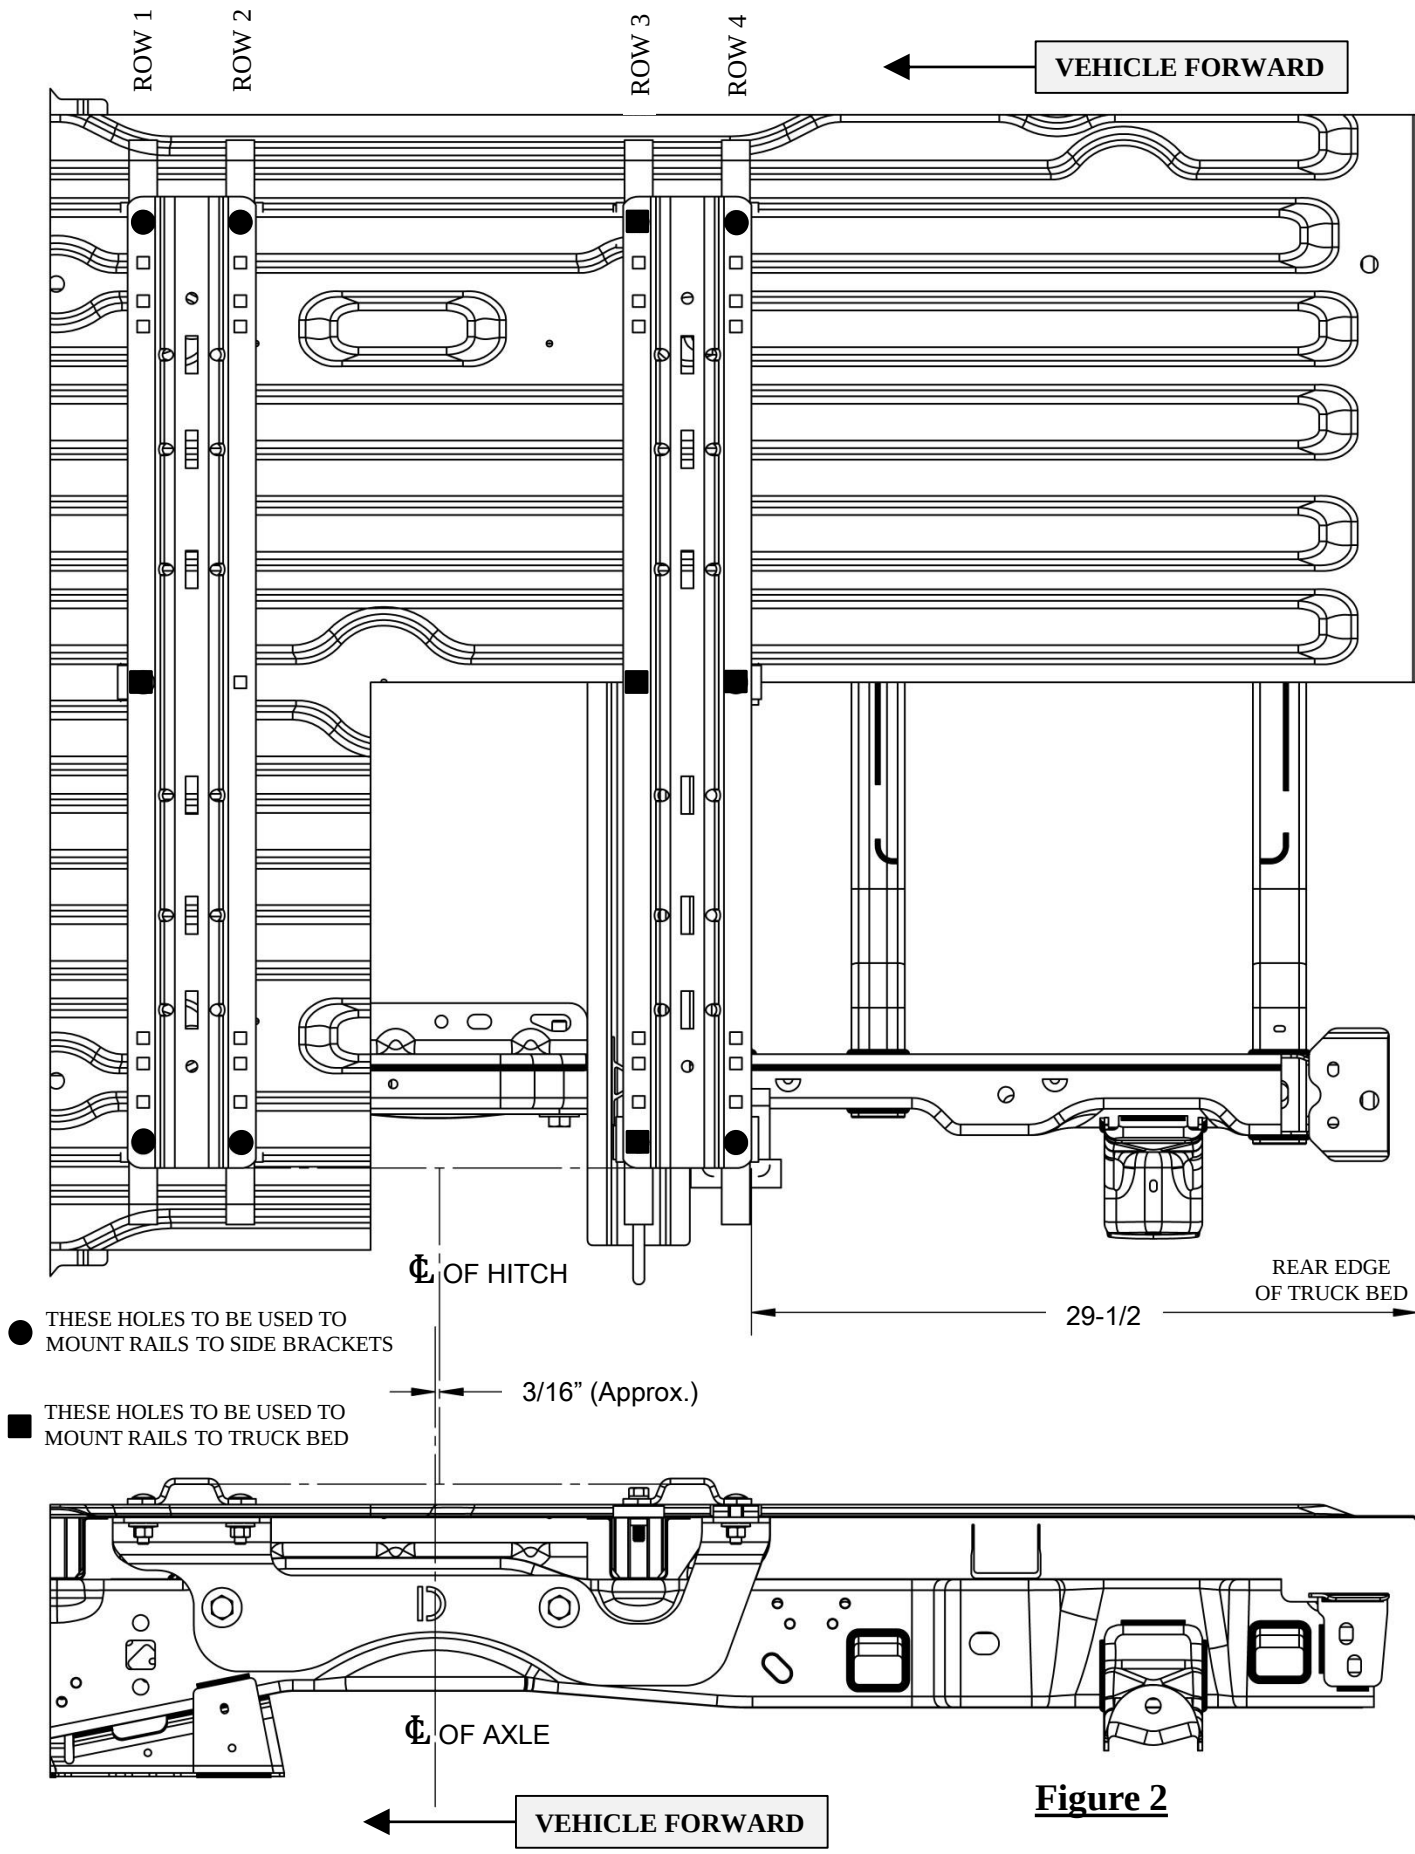

Figure 2
3. Place the rear mounting rail in the box of the truck, using your tape measure, center the rail between the weld seams on the length of the truck box floor or the wheel well and the proper distance from the rear edge of the truck. (See Figure 2)
4. Mark and center-punch the holes, as per the illustrations. Move the rail out of the way and drill each position with a 1/8" drill bit. (See Figure 2)
12. Install the rear rail attachment bolts as shown in figure (3). Ensure that the galvanic isolator patches (13) are installed on the U-shaped spacers and spacer blocks as shown. (See figures 4 & 5) Attach the 1/2" conical washers (16) and hex nuts (15) on the bottom side of the frame bracket (18) & (19), as per figure 3, and tighten snug to keep the mounting rail from moving. The outer bolts in row 3 of figure 2 will utilize 1/2-13 x 2 hex head bolts (1) on the top of the rail, with a galvanic isolator patch (13), 1/2 x 1-1/2 x 2-1/4 spacer block (3), and a nut handle (2). **For the center bolt in row 3, which goes through the truck bed cross member/sill/hat section, route the 1/2-13 x 4-1/2 Carriage bolt (21) through the rail and tube spacer (20), and secure using the 1/4 x 1-1/2 x 3 spacer (5), 1/2 conical washer (16), and 1/2-13 nut (15). For the center rail bolt in row 4 of rail attachment bolts, route a 1/2-13 x 2 Carriage Bolt (17) though the rail and bed, with a 1/2 x 1-1/2 x 2-1/4 spacer (3) between the rail and bed. Then secure using a 1/4 x 1-1/2 x 3 spacer (5), 1/2" conical washer (16) and 1/2-13 nut (15).**